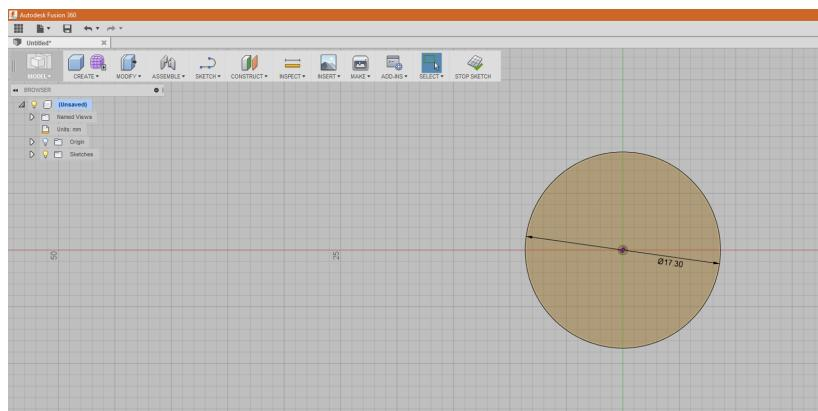

Figure 11-7. A sketch circle with a diameter of 17.3mm
6. Type **17.3** as shown in Figure 11-7. Then press Enter twice.